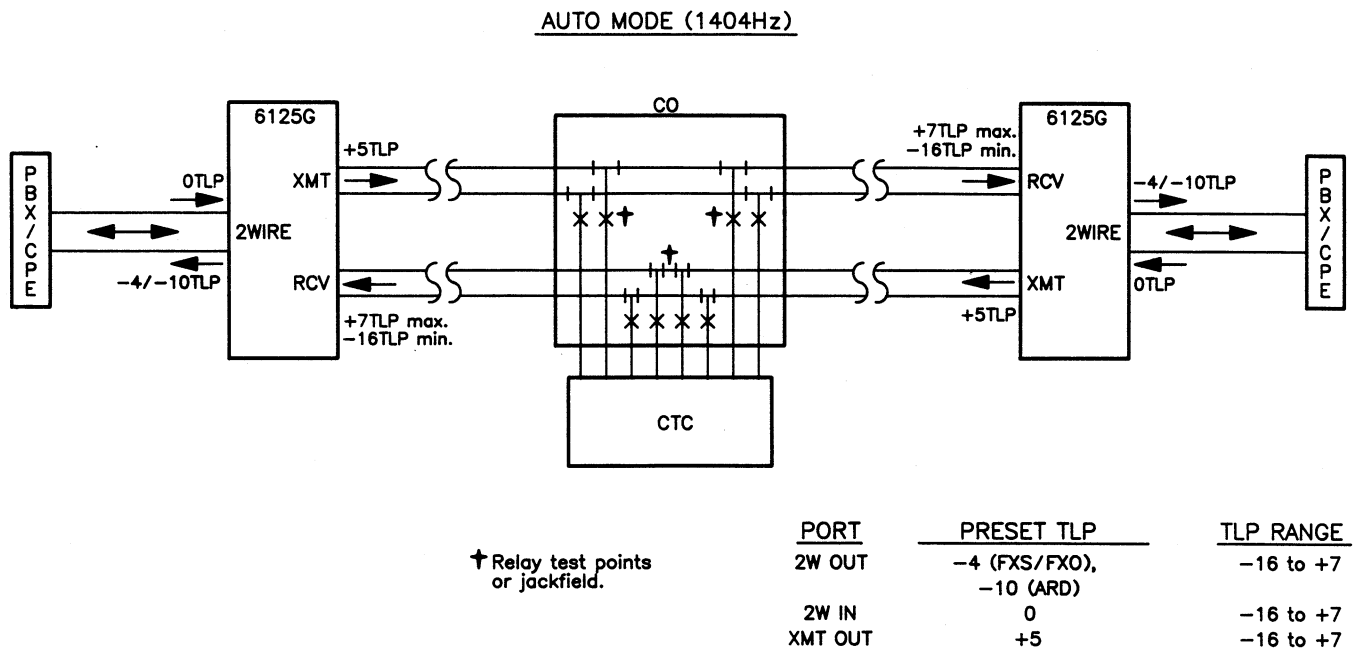

figure 7. AUTO-mode application without CO equipment
2.39 Overview. In the AUTO mode (figures 7 and 8), the 6125G acts as the **master** module and directs the receive-level and receive- (post-) equalization alignment process for both ends of the facility. The distant end of the circuit must be terminated either with a 6125G or with an equivalent unit that aligns at TLP's. It makes no difference which end of the circuit is selected as the master. Alignment is initiated either by depressing the front-panel *wiring check* pushbutton on the 6125G for 5 seconds minimum or by transmitting the proper tones toward the 6125G from the CTC. After alignment is initiated, the 6125G assumes control of the alignment process. The master 6125G, when in the AUTO mode, transmits the necessary tones to the far-end, or **slave**, unit to put that unit into its alignment mode. The master and slave units then send tones back and forth until both ends of the circuit are aligned. In this mode, the 2wire output TLP returns to its preset value of -4 (FXS or FXO operation) or -10 (ARD operation), the 2wire input TLP returns to its preset value of 0, and the 4wire transmit output TLP is adjusted to +5. After aligning at the last frequency, the slave unit goes into loopback. The master unit then checks the round-trip frequency response of the facility, after which it removes the slave unit from loopback, sends acknowledgement tone, and then goes idle.